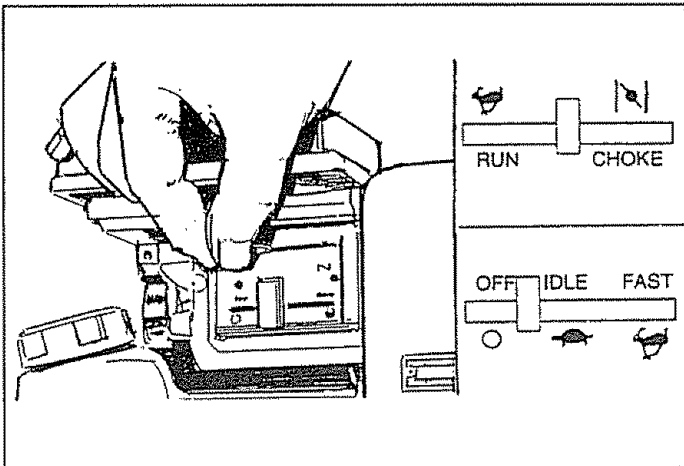

FIG. 19
- Move throttle control to FAST position (Fig. 19).